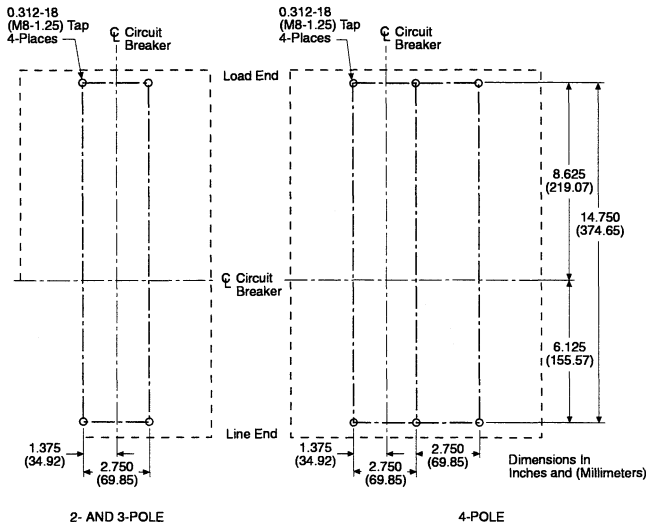
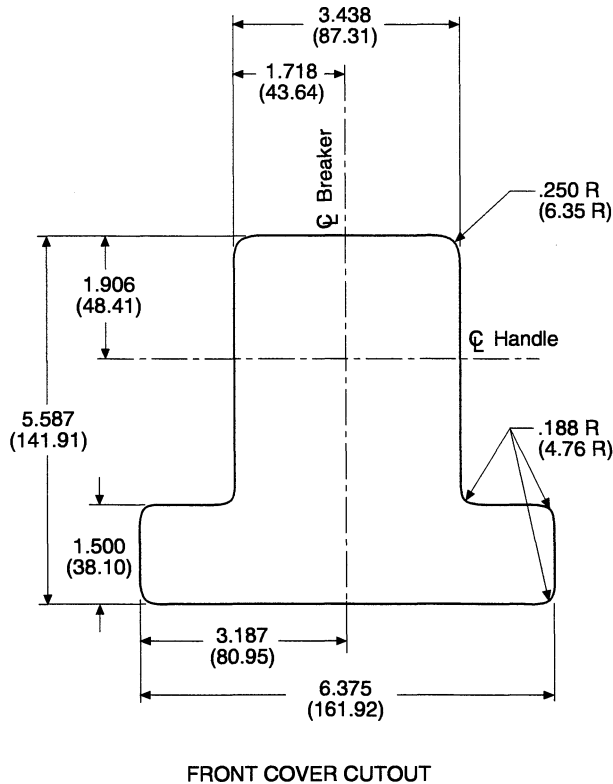

Fig. 2-3 Breaker Mounting Bolt Drilling Plan
Fig. 2-4 Circuit Breaker Escutcheon Dimension
- For individual surface mounting, drill mounting panel using the drilling plan shown in Fig. 2-3. For dead front cover applications, cut out cover to correct escutcheon dimensions, see Fig. 2-4.